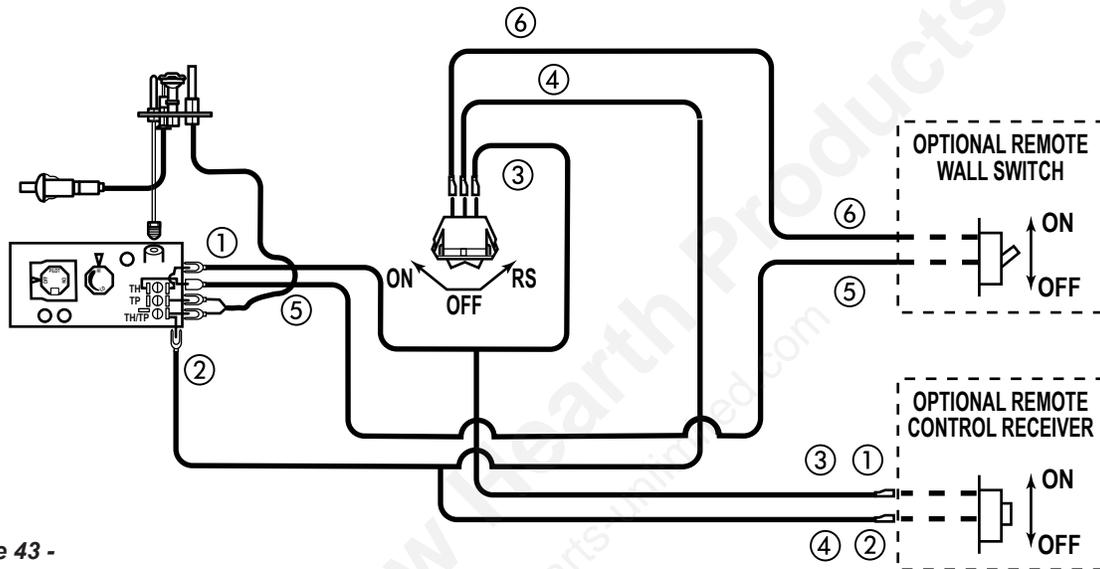

Figure 43 - Wiring Diagram for Wall Switch
A remote wall switch and up to fifteen (15) feet of 18 Ga. wire may be used with this appliance. Attach the wall switch in a junction box at the desired location on the wall. *Figure 43*. Do not extend beyond the wall switch wire length provided.
3. Connect the wire terminal from the remote receiver. *Figure 43*